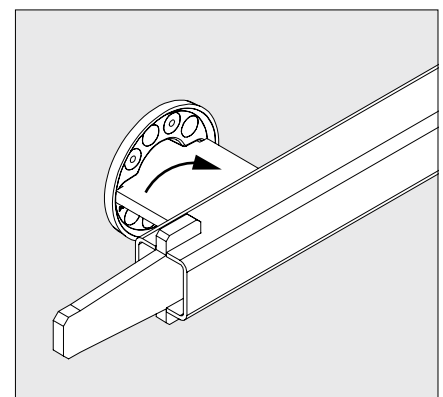

Fig. A13.04d
5. Turn the Magnet Cone Spanner. (Fig. A13.04d)